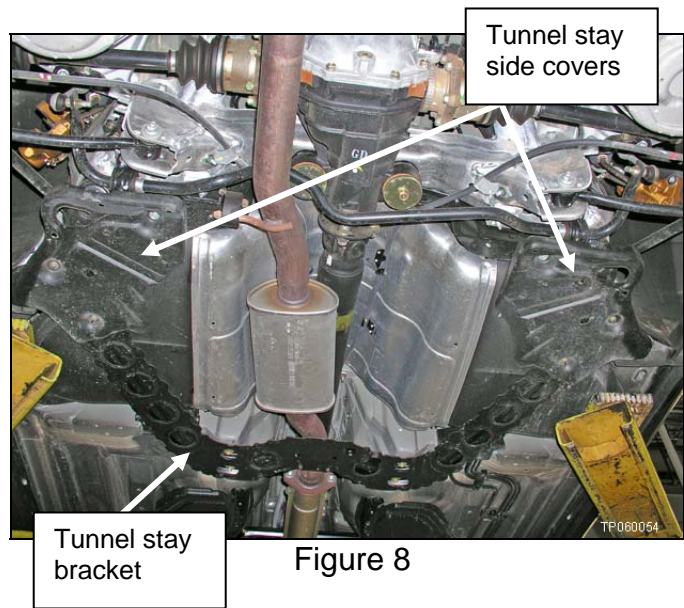

Figure 8
11. Remove nuts and bolts and remove the tunnel stay side covers and the tunnel “stay” bracket (see Figure 8).